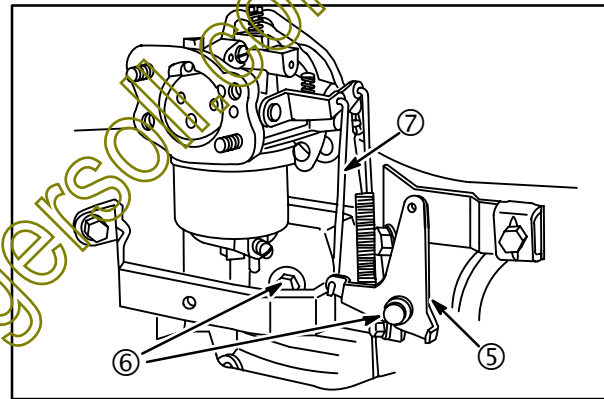
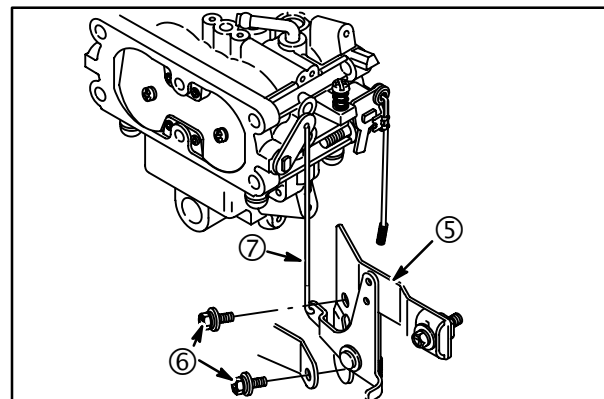

Fig. 27
Fig. 28
- Connect choke link (7) to choke lever and install choke control bracket (5), single barrel carburetor, **Fig. 27**, two barrel carburetor, **Fig. 28**. Torque screws (6) to **65 in. lbs. (7 Nm)**.